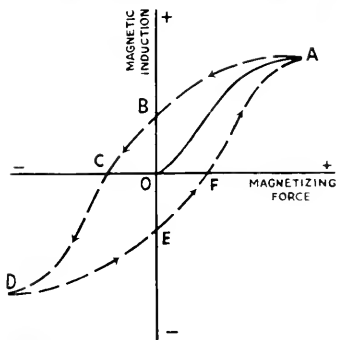
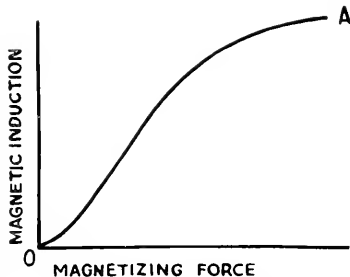

Fig. 2 Development of typical hysteresis loop by cyclically varying magnetic field.
Fig. 1 Magnetizing force and initial magnetic induction for a typical magnetic material.
In Fig. 1 we show a typical relation between the magnetizing force applied to a material and the resulting magnetic induction (magnetization). This curve shows what happens when you start with a completely de-magnetized material, and increase the magnetizing force progressively. Note that the curve levels off at the upper end as saturation is approached (point A). If we now decrease the magnetizing force from its peak value A back down to zero, the magnetic induction will fail to retrace the curve previously followed. Instead, it will decrease much more slowly, following the dotted line AB shown in Fig. 2. Even when the magnetizing force has dropped to zero, a certain amount of residual magnetization remains (point B). To remove this, it is necessary to apply a
magnetizing force of opposite polarity. The curve will then be as shown by the dotted line BC in Fig. 2. Then, if this negative magnetizing force is progressively increased, the curve will continue along dotted line CD, approaching negative saturation and returning along dotted line DEFA as the magnetizing force is reduced to zero and then increased positively again. This failure of the curve to retrace its original path is called hysteresis, and the dotted curve shown in Fig. 2 is a hysteresis loop, the magnetization curve which results when we increase and decrease the magnetizing force cyclically.
Actually, we have oversimplified the matter in Fig. 2, because we do not ordinarily get back exactly to the starting point (A) the first time around the loop. After thirty or forty cyclic variations the loop retraces itself exactly, and it is this which is ordinarily shown, rather than the first loop traced after the initial magnetization curve (line OA)